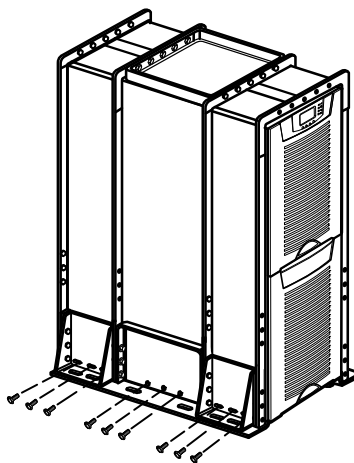

Figure 9. Securing the Base
18. Install nine M8 bolts to each side of the base (see Figure 9). Tighten the bolts.